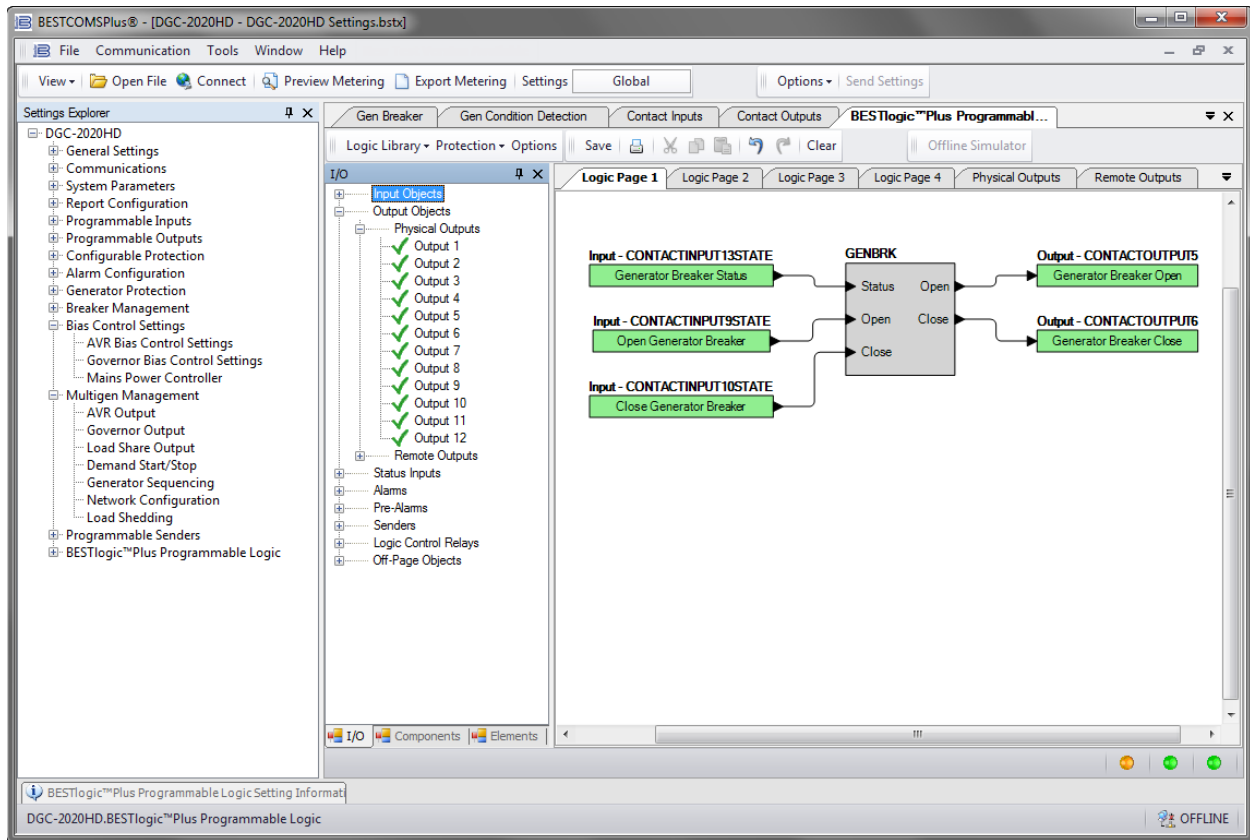

Figure 107. Synchronizer Setup in BESTlogicPlus Step 26
26. Click on the I/O tab and drag the inputs assigned in step 3, into the main logic screen. Connect them to the appropriate inputs of the GENBRK block. Drag the outputs assigned in step 4 into the main logic screen and connect them to the appropriate outputs of the GENBRK block. See Figure 107.